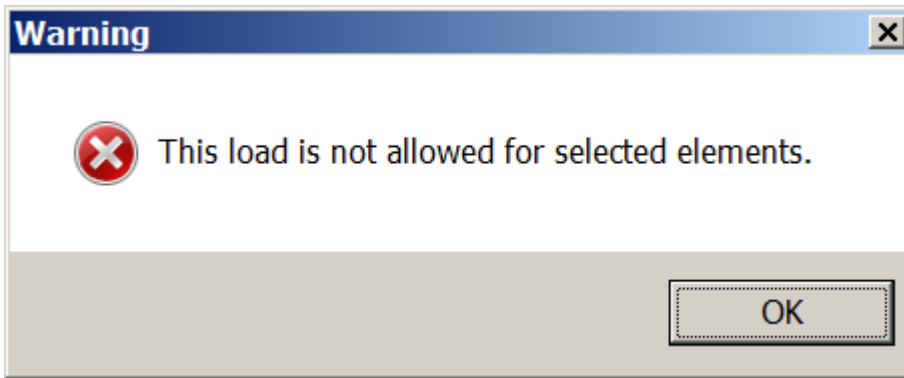

Figure 21.19 Warning message box
- ⇒ The **Warning** message box is displayed (see Fig.21.19). Click **OK**.